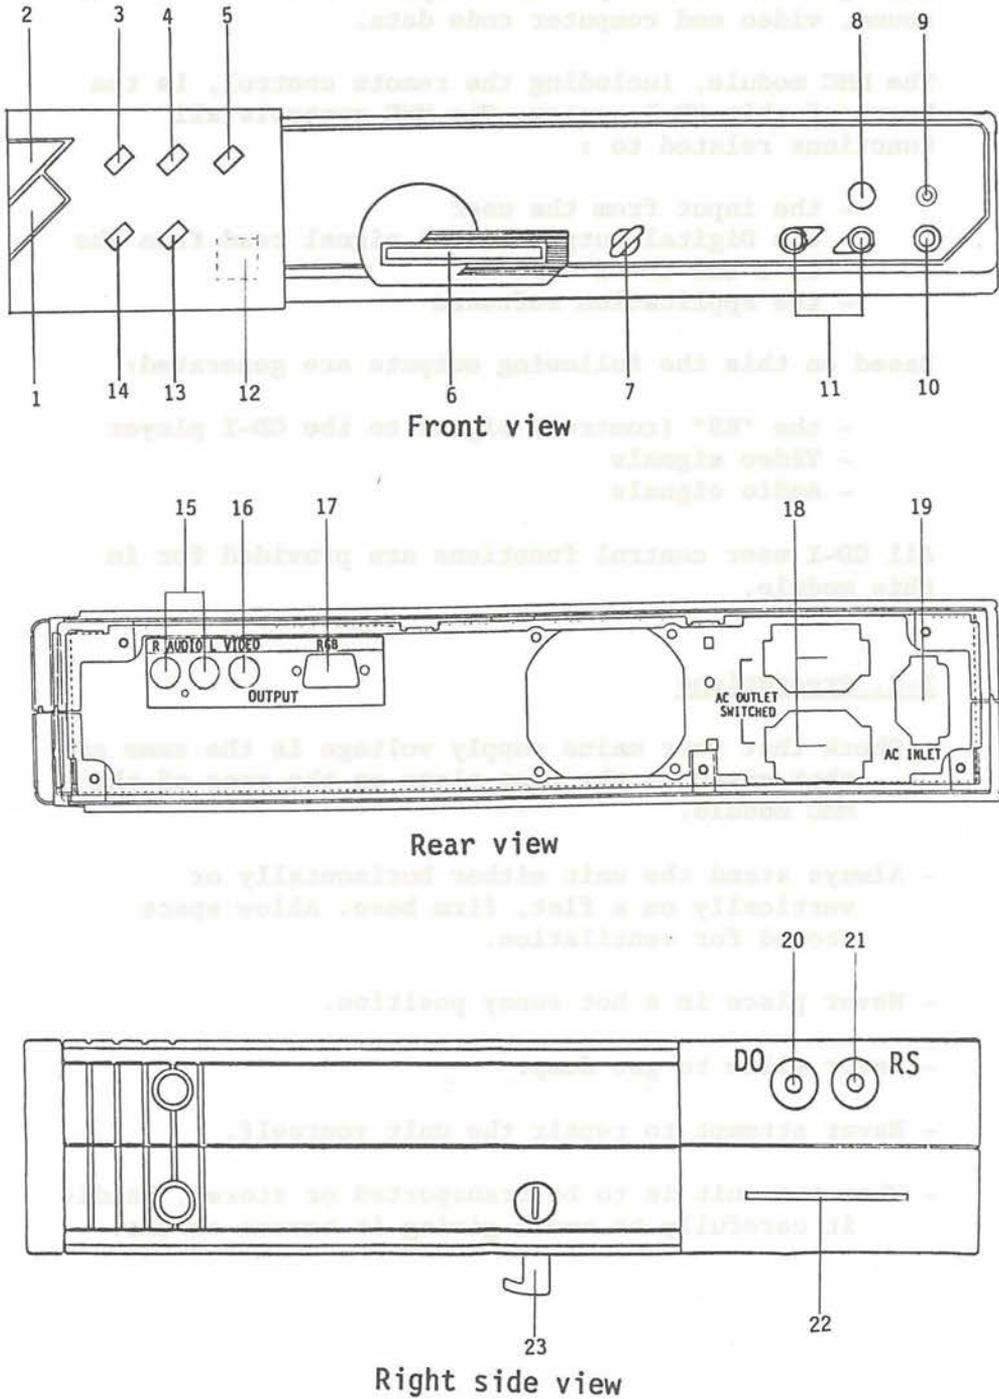

Fig. 3-1.
2. Connectors and controls are shown in Figs. 3-1 and 3-2.